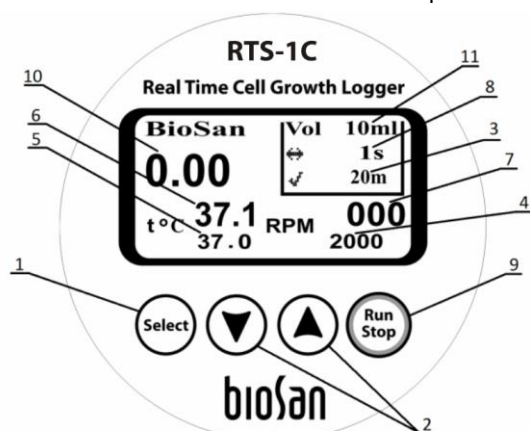

Fig. 2 Control panel
- Set the volume parameter of the distilled water on the display (fig. 2/11);
- Press **Run Stop** key (fig. 2/9) (the device will start the OD measurement cycle by accelerating to 2000 rpm);
- 5.4. Press the **Select** key (fig. 2/1) to choose a parameter that you want to change (the active parameter is blinking).
- 5.5. Use ▲ and ▼ keys (fig. 2/2) to set the necessary value (if the key is pressed for more than 2 seconds the parameter should change quicker).
- 5.6. It is possible to set time between optical density measurements (fig. 2/3), spinning speed (fig. 2/4), temperature (fig. 2/5), time between Reverse Spins (fig. 2/8), operating volume (fig. 2/11). Actual values of the temperature and speed are displayed on the display (fig. 2/6 and fig. 2/7).
- 5.7. Press the **Run Stop** key (fig. 2/9) to start and stop operation.
- 5.8. Press the **Run Stop** key (fig. 2/9) to stop the operation.
-  **Caution!** Operation stop will not stop the heating process. To stop heating process set temperature has to be decreased manually until “off” indication appears (fig. 2/5).